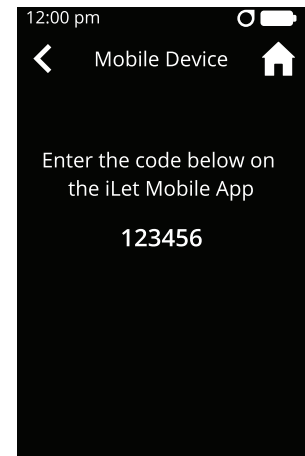

Figure 96
- Enter the 6-digit code into the iLet Mobile App (see Figure 96).